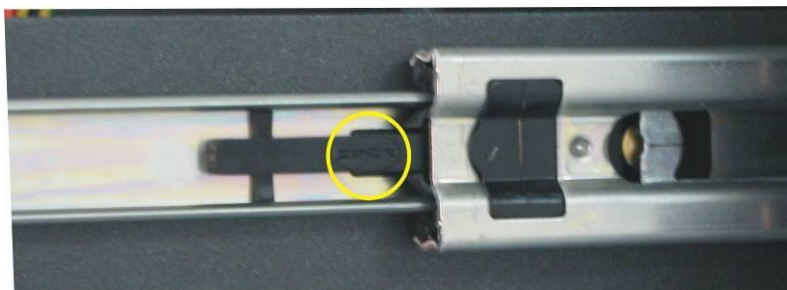

Figure 31 Rack slide lock
5. Now carefully insert the instrument into the rack by placing the instrument slides into the lid slides, ensure that the rack slide locks engage (Figure 31) on each side (you will hear a click) and gently slide the instrument into the rack.
2. Find the rack slide lock labelled “push” (Figure 31) and push it in whilst sliding the instrument out of the rack, complete this for both sides before carefully removing instrument